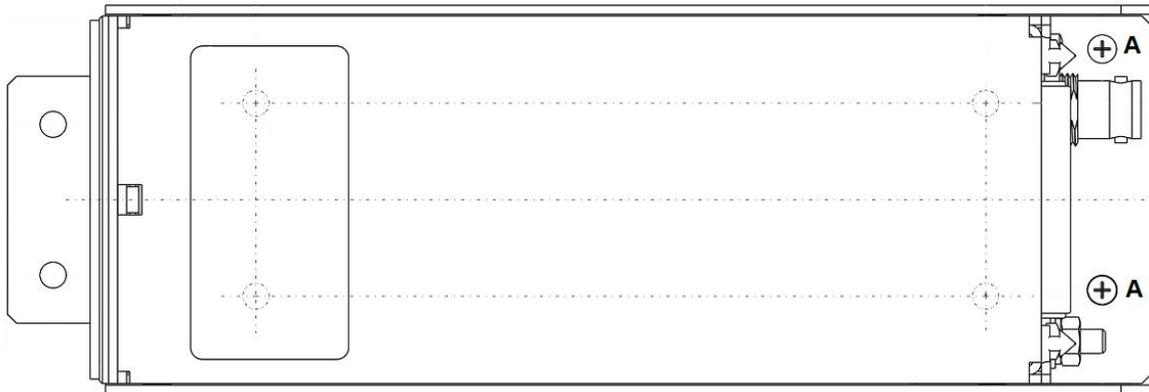

Figure 2-10: RT6201 fixed on MK6201-(010) (top view)
- Use two screws to tighten the unit to the mounting slot (see details "A" Figure 2-10 ).